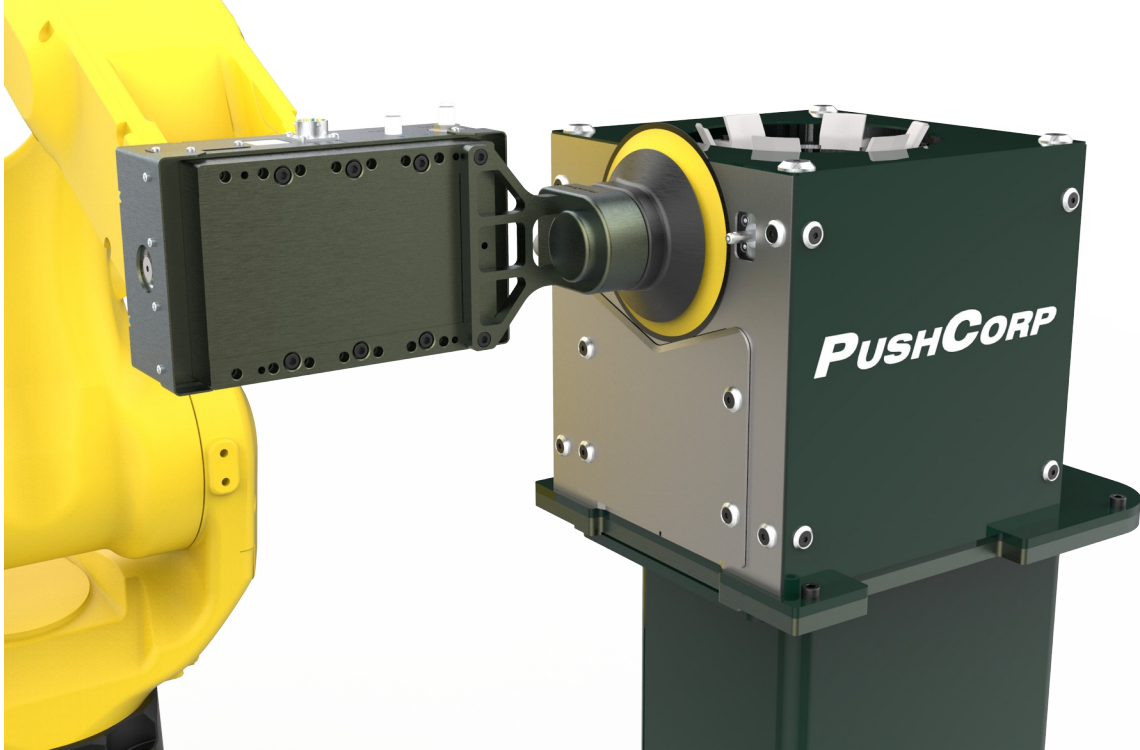

Figure 10: RPC100 Pad Removal
Step 5: Connect female "A-code" M12 8pin cable to the RPC100 unit and hardwire the connections per figure 10 in Section 6